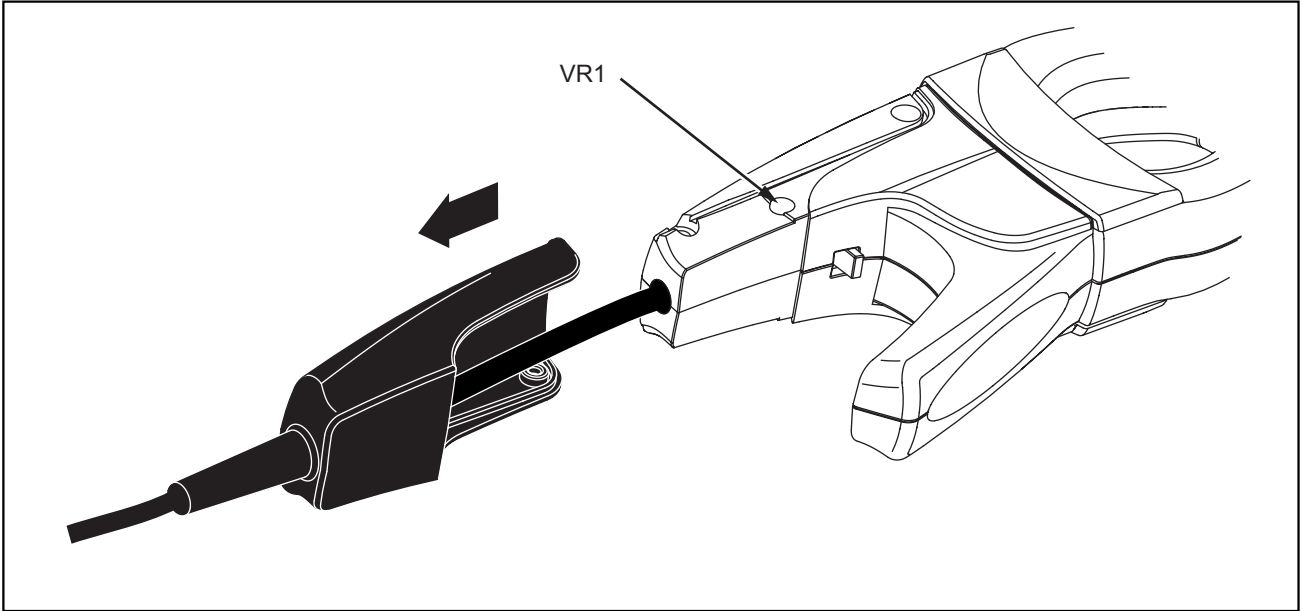

Figure 3. i400s Calibration Point
- 2. Referring to Figure 3, slide the rubber boot on the UUT handle back to access the adjustment point, VR1.